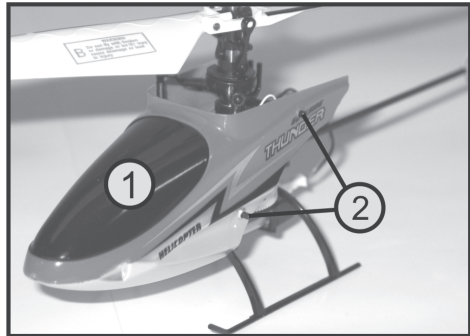

Figure 9
For better presentation, the canopy of the helicopter was taken off for figure 8. Lift the canopy off (see figure 9, item 1) of the two support bolts on the left and the right (see figure 9, item 2) and pull off the canopy forwards.